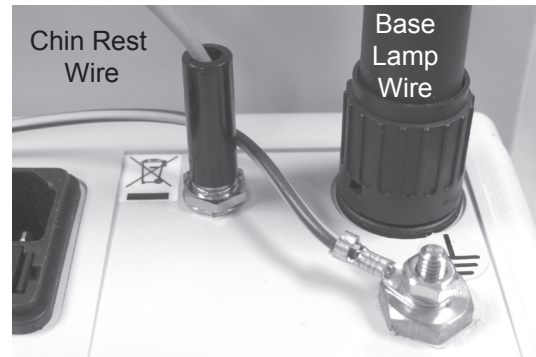

Figure SU-6 Connections
9. Attach the Fixation Light Wire from the Chin Rest Assembly into the connector on the back of the Power Supply Assembly. Refer to Figure SU-6.
14. Attach the Base Lamp Wire to the back of the Power Supply Assembly. Refer to Figure SU-6.